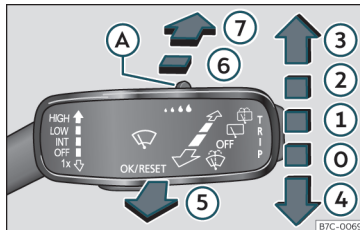

Fig. 40 Operating the windscreen wiper and rear wiper.
- INT** Windscreen wipers interval wipe. Using the control >>> Fig. 40 (A) adjust the interval (vehicles without rain sensor), or the sensitivity of the rain sensor.